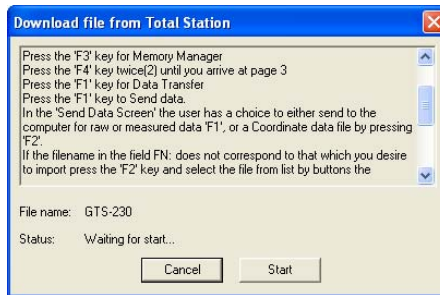

Figure 3-32. Total Station Instructions – Preparing for Import
- Follow all the steps listed in the **Download File From Total Station** dialog box to prepare the Total Station (Figure 3-32).